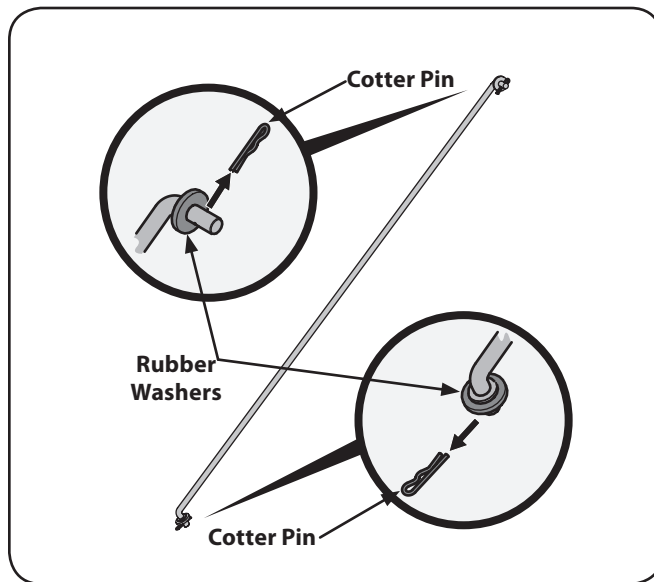

Figure 1-6
2. Remove the cotter pins from the control rod, leave the rubber washers on the control rod. See Figure 1-6.